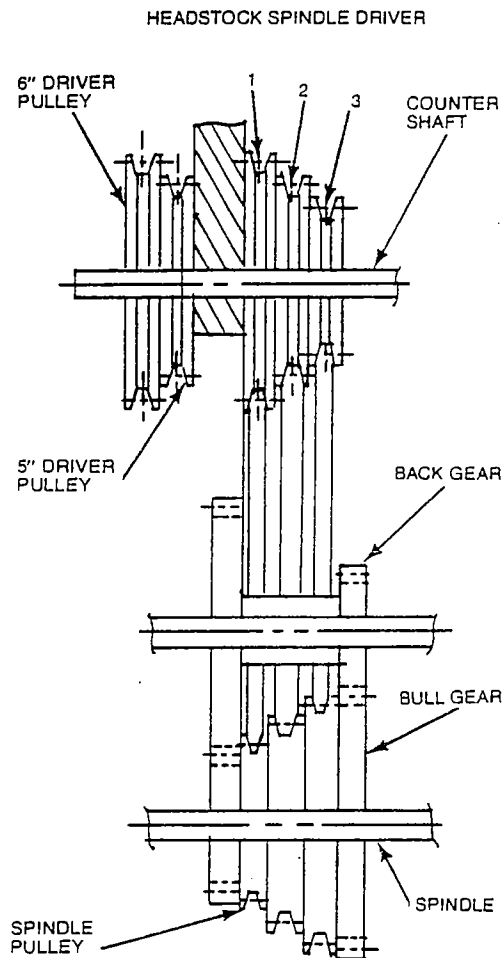

FIGURE 16
6. Set spindle rpm at desired rate by means of V-belt (Figure 16).